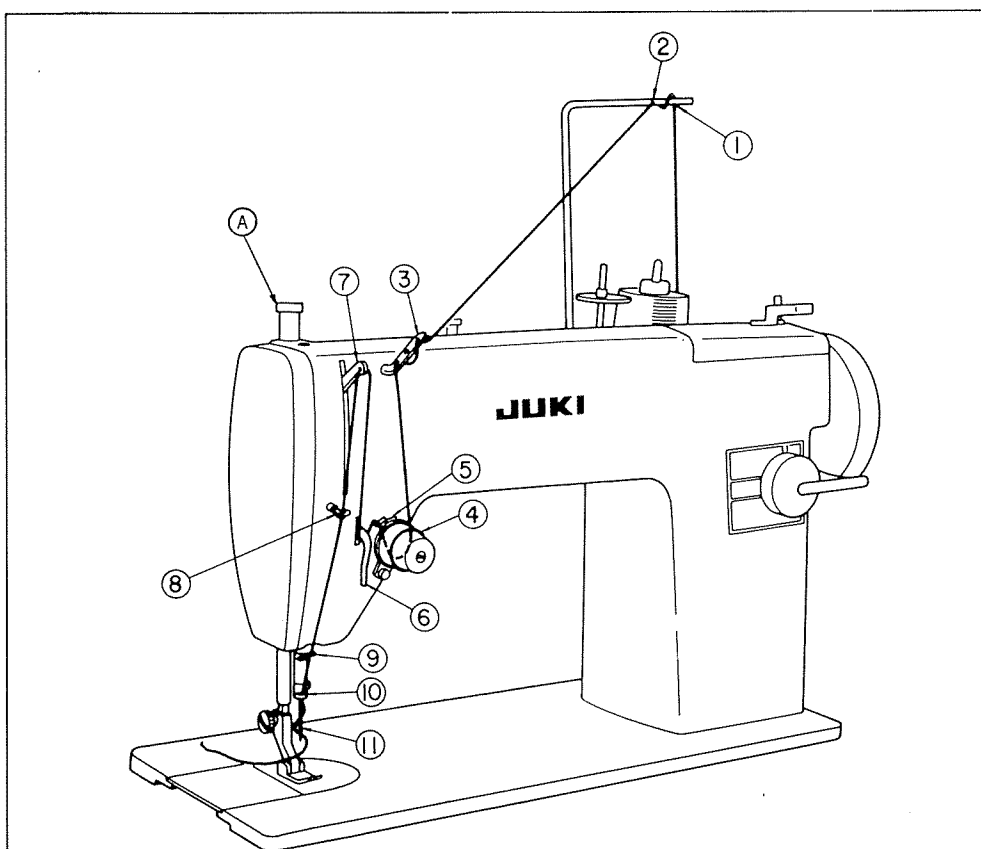

Fig. 5
Thread the machine in accordance with Fig.5. (numerical order from ① to ⑪).